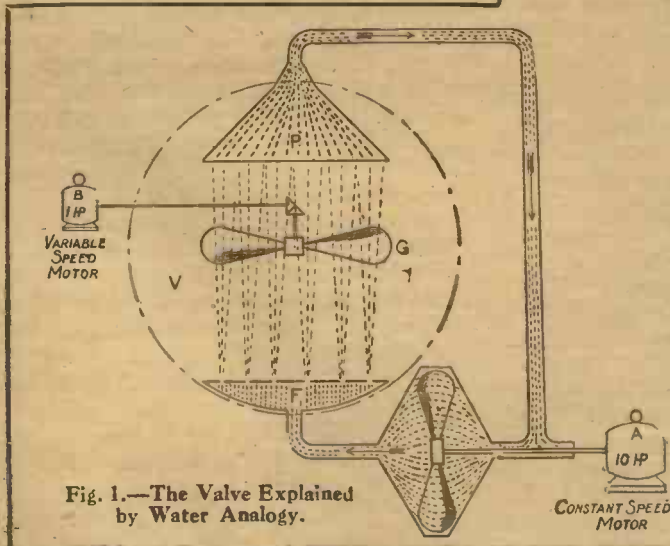
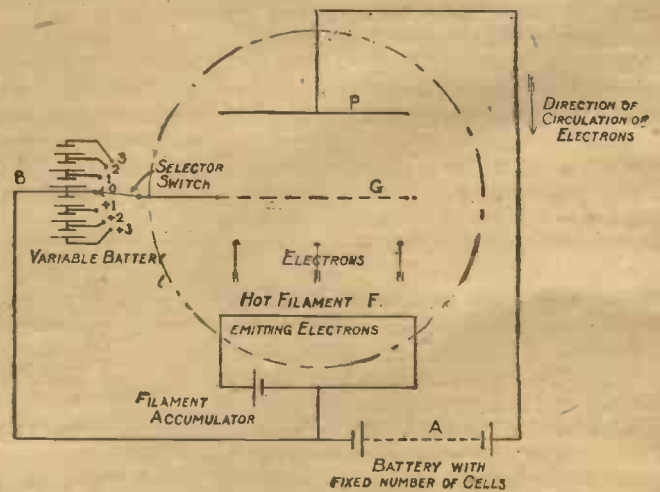

Fig. 1.—The Valve Explained by Water Analogy.
Fig. 2.—The Passage of Electrons in the Valve.
**ANALOGY** usually provides a simple means of explaining rather abstruse principles, and in this and subsequent articles it is proposed to illustrate the working of the three-electrode valve by comparing it with a hydraulic device shown in Fig. 1.
The electrical vacuum valve is shown in Fig. 2. Here *F* is the "filament," a strip of fine wire which is rendered white hot by means of an accumulator. Its purpose is to spray out into the valve a stream of electrons when these are put under pressure by the battery *A*. Its action is thus similar to that of the rose in Fig. 1. The battery *A* consists of a fixed number of dry cells and maintains a comparatively high difference of electrical potential between *F* and the "plate" *P* (which is merely a small piece of sheet metal). This battery would cause a current to flow from *F* to *P* in the form of a stream of fine spray of minute electrons but for the interference of the "grid" *G*. *G* usually takes the form of a piece of
The effect of varying the potential of G is similar to that of varying the speed of the small motor in Fig. 1. Starting with the switch on stud O, which puts G at the same potential as F, the passage of electrons across the valve, and consequently also in the rest of the large battery circuit, is unimpeded. By moving on to 1, 2, and 3 in turn the potential is lowered, and the grid now acts as did the fan G when its speed was slowed down—it interferes with and finally stops the flow altogether. On the other hand, if the switch is moved to studs +1, +2, and +3 in turn the effect is to assist the passage of the electrons and increase the current.